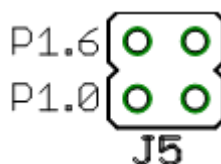

Figure 3. J5 Jumper
3. Remove P1.6 and P1.0, as shown in Figure 3.